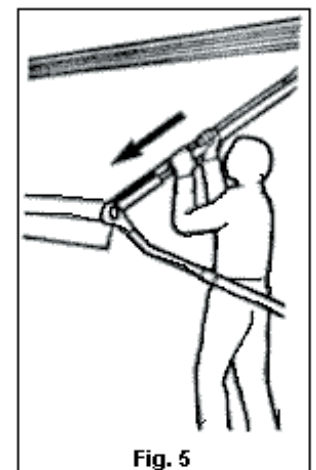

Fig. 5
4. Set the spring tension of the rafter arm by grasping the outer tube and pushing briskly forward in the direction of the arrow as shown in Fig. 5 until a click is heard indicating the arm is locked. At this point the awning fabric will be taut.